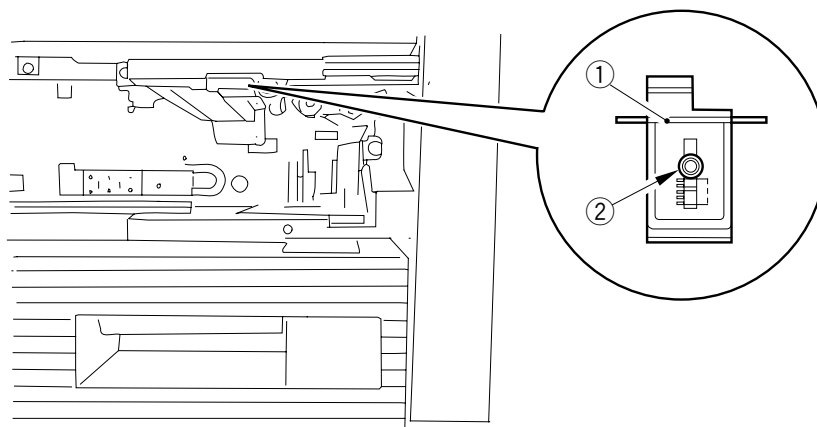

Figure 5-846
Loosen the screw ② shown in Figure 5-846, and adjust the position of the cassette hook plate ① so that the registration is as specified. (See p. 10-53.)